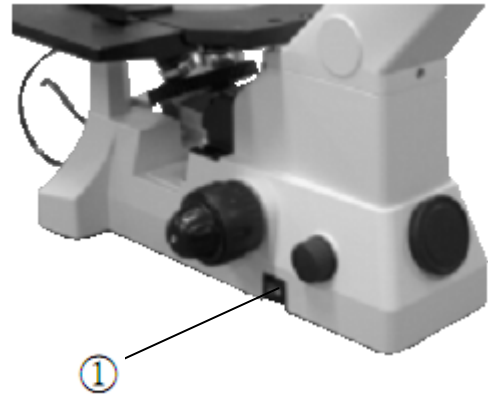

Fig .12
## 2-2-8 Connecting the power cord (Fig.12,13 &14)
1. Make sure that the main switch of the power supply is set to "o"(OFF) before connecting cables.(Fig.12)